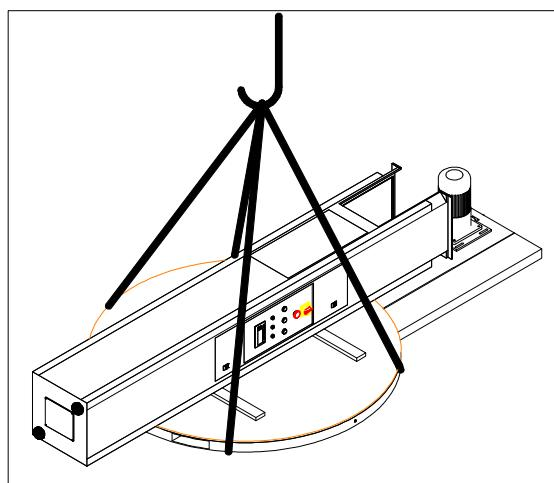

FIG 2-9
1. Carry the machine, with its package removed, to the installation site with a crane (FIG 2-9).